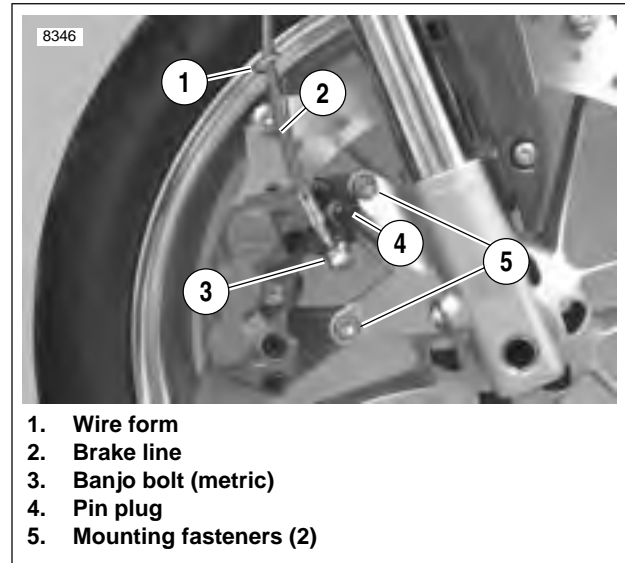

Figure 2-40. Front Brake Caliper Mounts
2. See Figure 2-40. Disconnect brake line at caliper. See 2.11 FRONT BRAKE LINE.
3. Remove caliper mounting fasteners (5).